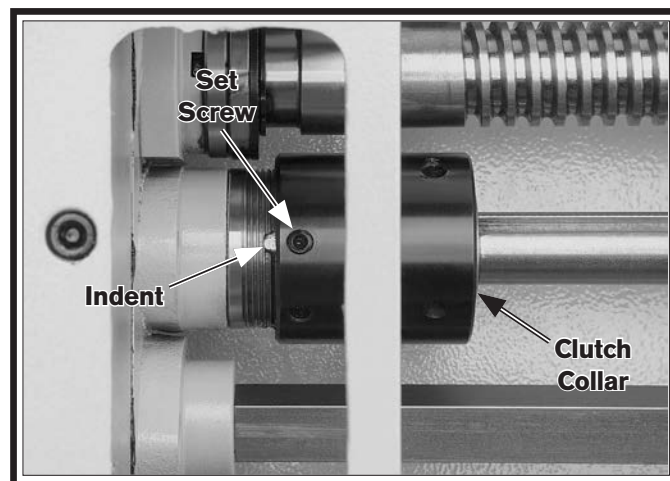

Figure 131. Feed rod clutch collar components.
3. Open the end gear cover, then rotate the bottom end gear by hand until you can access the set screw in the clutch collar, as shown in **Figure 131**.
5. Remove the set screw shown in **Figure 131**.